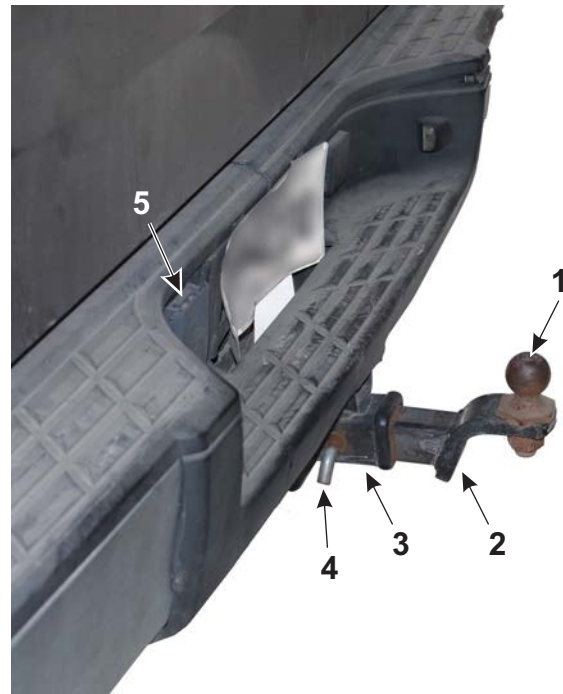

Figure 3-4 – Tow Vehicle Hitch Assembly
- Inspect that the hitch receiver (3, Figure 3-4) mounting to the tow vehicle is secure, with no visible cracks in the frame, etc.
- Inspect the hitch ball (1, Figure 3-4) to make sure it is tight and does not show any signs of wear or cracking and that the hitch ball or the hitch ball nut do not move.
- Check that the ball mount (2, Figure 3-4) has been installed securely into the hitch receiver.
- Make sure that the ball mount lock pin (4, Figure 3-4) has been installed and is properly securing the ball mount to the hitch assembly.